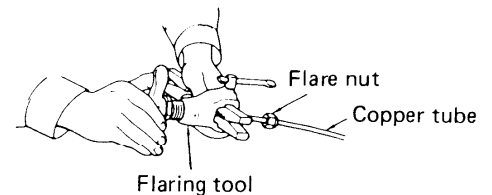

Fig. 25
- Make a flare at the end of copper tube with a flaring tool\* Fig. 25 (\*Use "RIGID" or equivalent.)